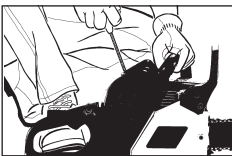

Abb. 9D
4. Place the saw on a firm and level surface. Hold the saw securely with your foot as illustrated. Tug sharply on the starter 4 times. Watch the chain in case it runs (Fig. 9D).